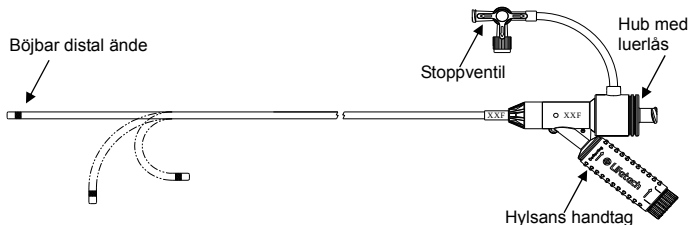
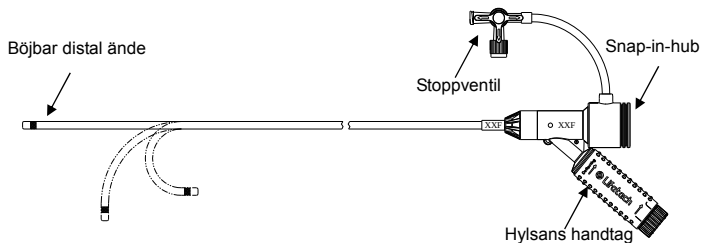

Fig.1 Styrbar introducer(800 serien)
Fig.2 Styrbar introducer (550/700/900 serier)
- 1) Böjbar hylsa (Fig.1 & Fig.2)